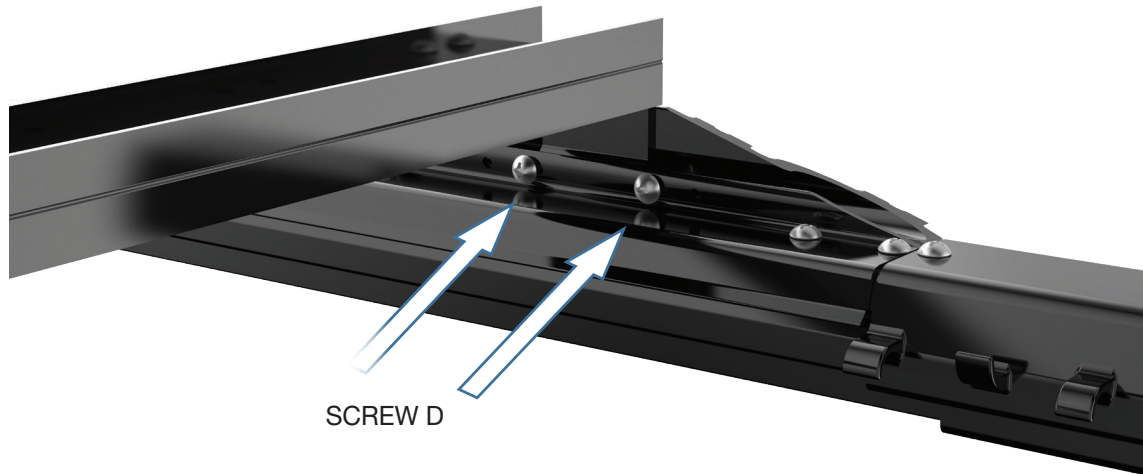

FIGURE 7: SECURE FIXTURE FROM SLIDING MOVEMENT BY TIGHTENING THE CONTAINMENT SCREWS
3. Use included #8-32 x 1/4" Thread Cutting screws to contain swivel within the Mount Bracket (Figure 7).
Screw D	Screw, Third-Cutting Type F, M4*6 (Figure 7)